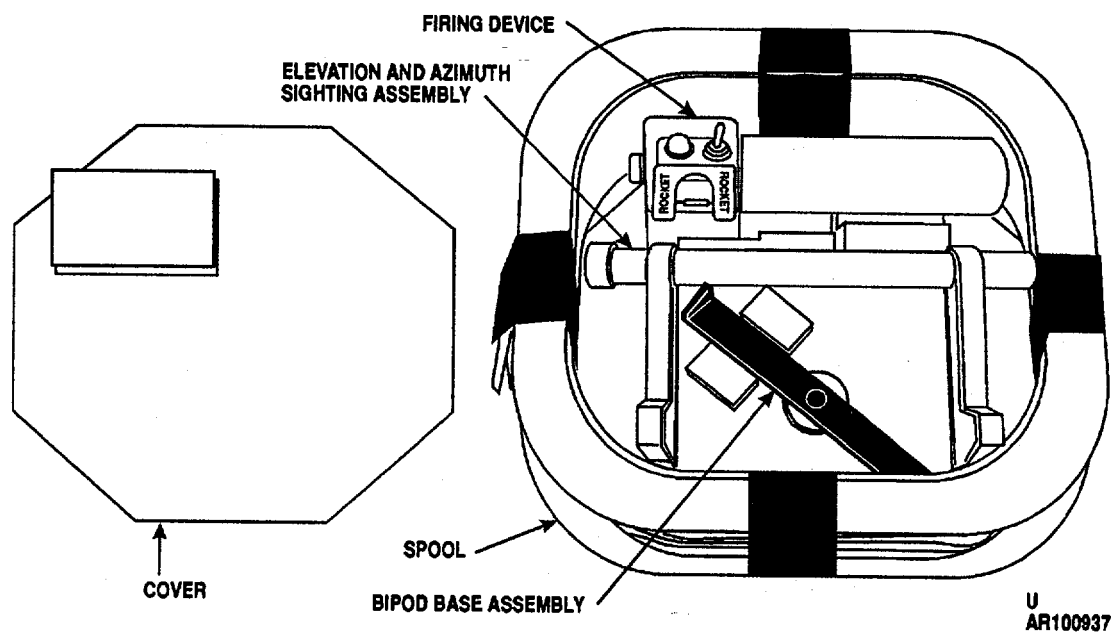

Figure 2-59. Discrimination spool with accessories compartment cover removed (mine M24).
- (5) Open accessories pouch and remove discriminator spool. Untape top accessories cover and remove firing device and ancillary items from spool (fig. 2-59). Retain all accessories for reuse.
- (6) Remove battery cover from firing device and correctly position two fresh batteries